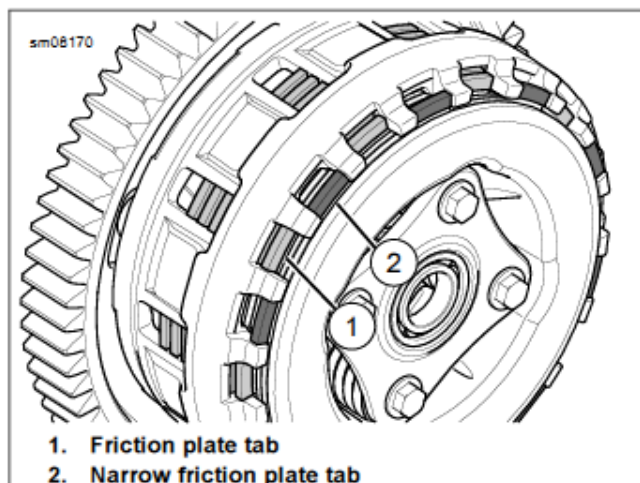

Figure 5-14. Friction Plate Tab Locations
6. See Figure 5-14. Install pressure plate and hub assembly into clutch basket.
- a. Align tabs of inner friction plate and friction plates (1).
- b. Align tabs of narrow friction plate (2).